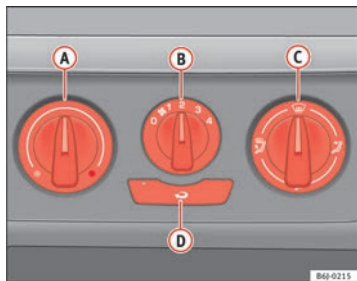

Fig. 88 Heating controls on the dash panel
- Using the controls **A** and **C** and with the switch **B** ⇒ fig. 88 you can adjust the temperature, the air distribution and the blower speed.